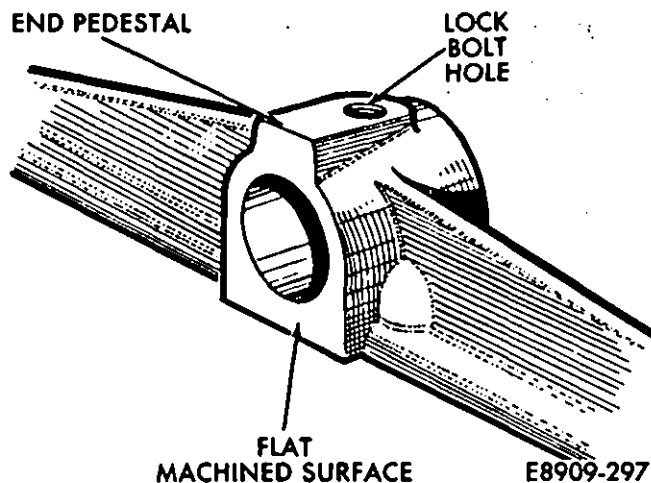

Fig. 8—Flat Machined Surface of Pedestal
(2) When assembling, be sure that the flat machined surface of the pedestal faces the circlip (Fig. 8).
(3) Lightly coat the rocker shaft with clean engine oil.
(4) Assemble the rocker shaft in the correct order. Insert the lock bolt and tighten it to 6 N·m (53 in-lbs) torque.